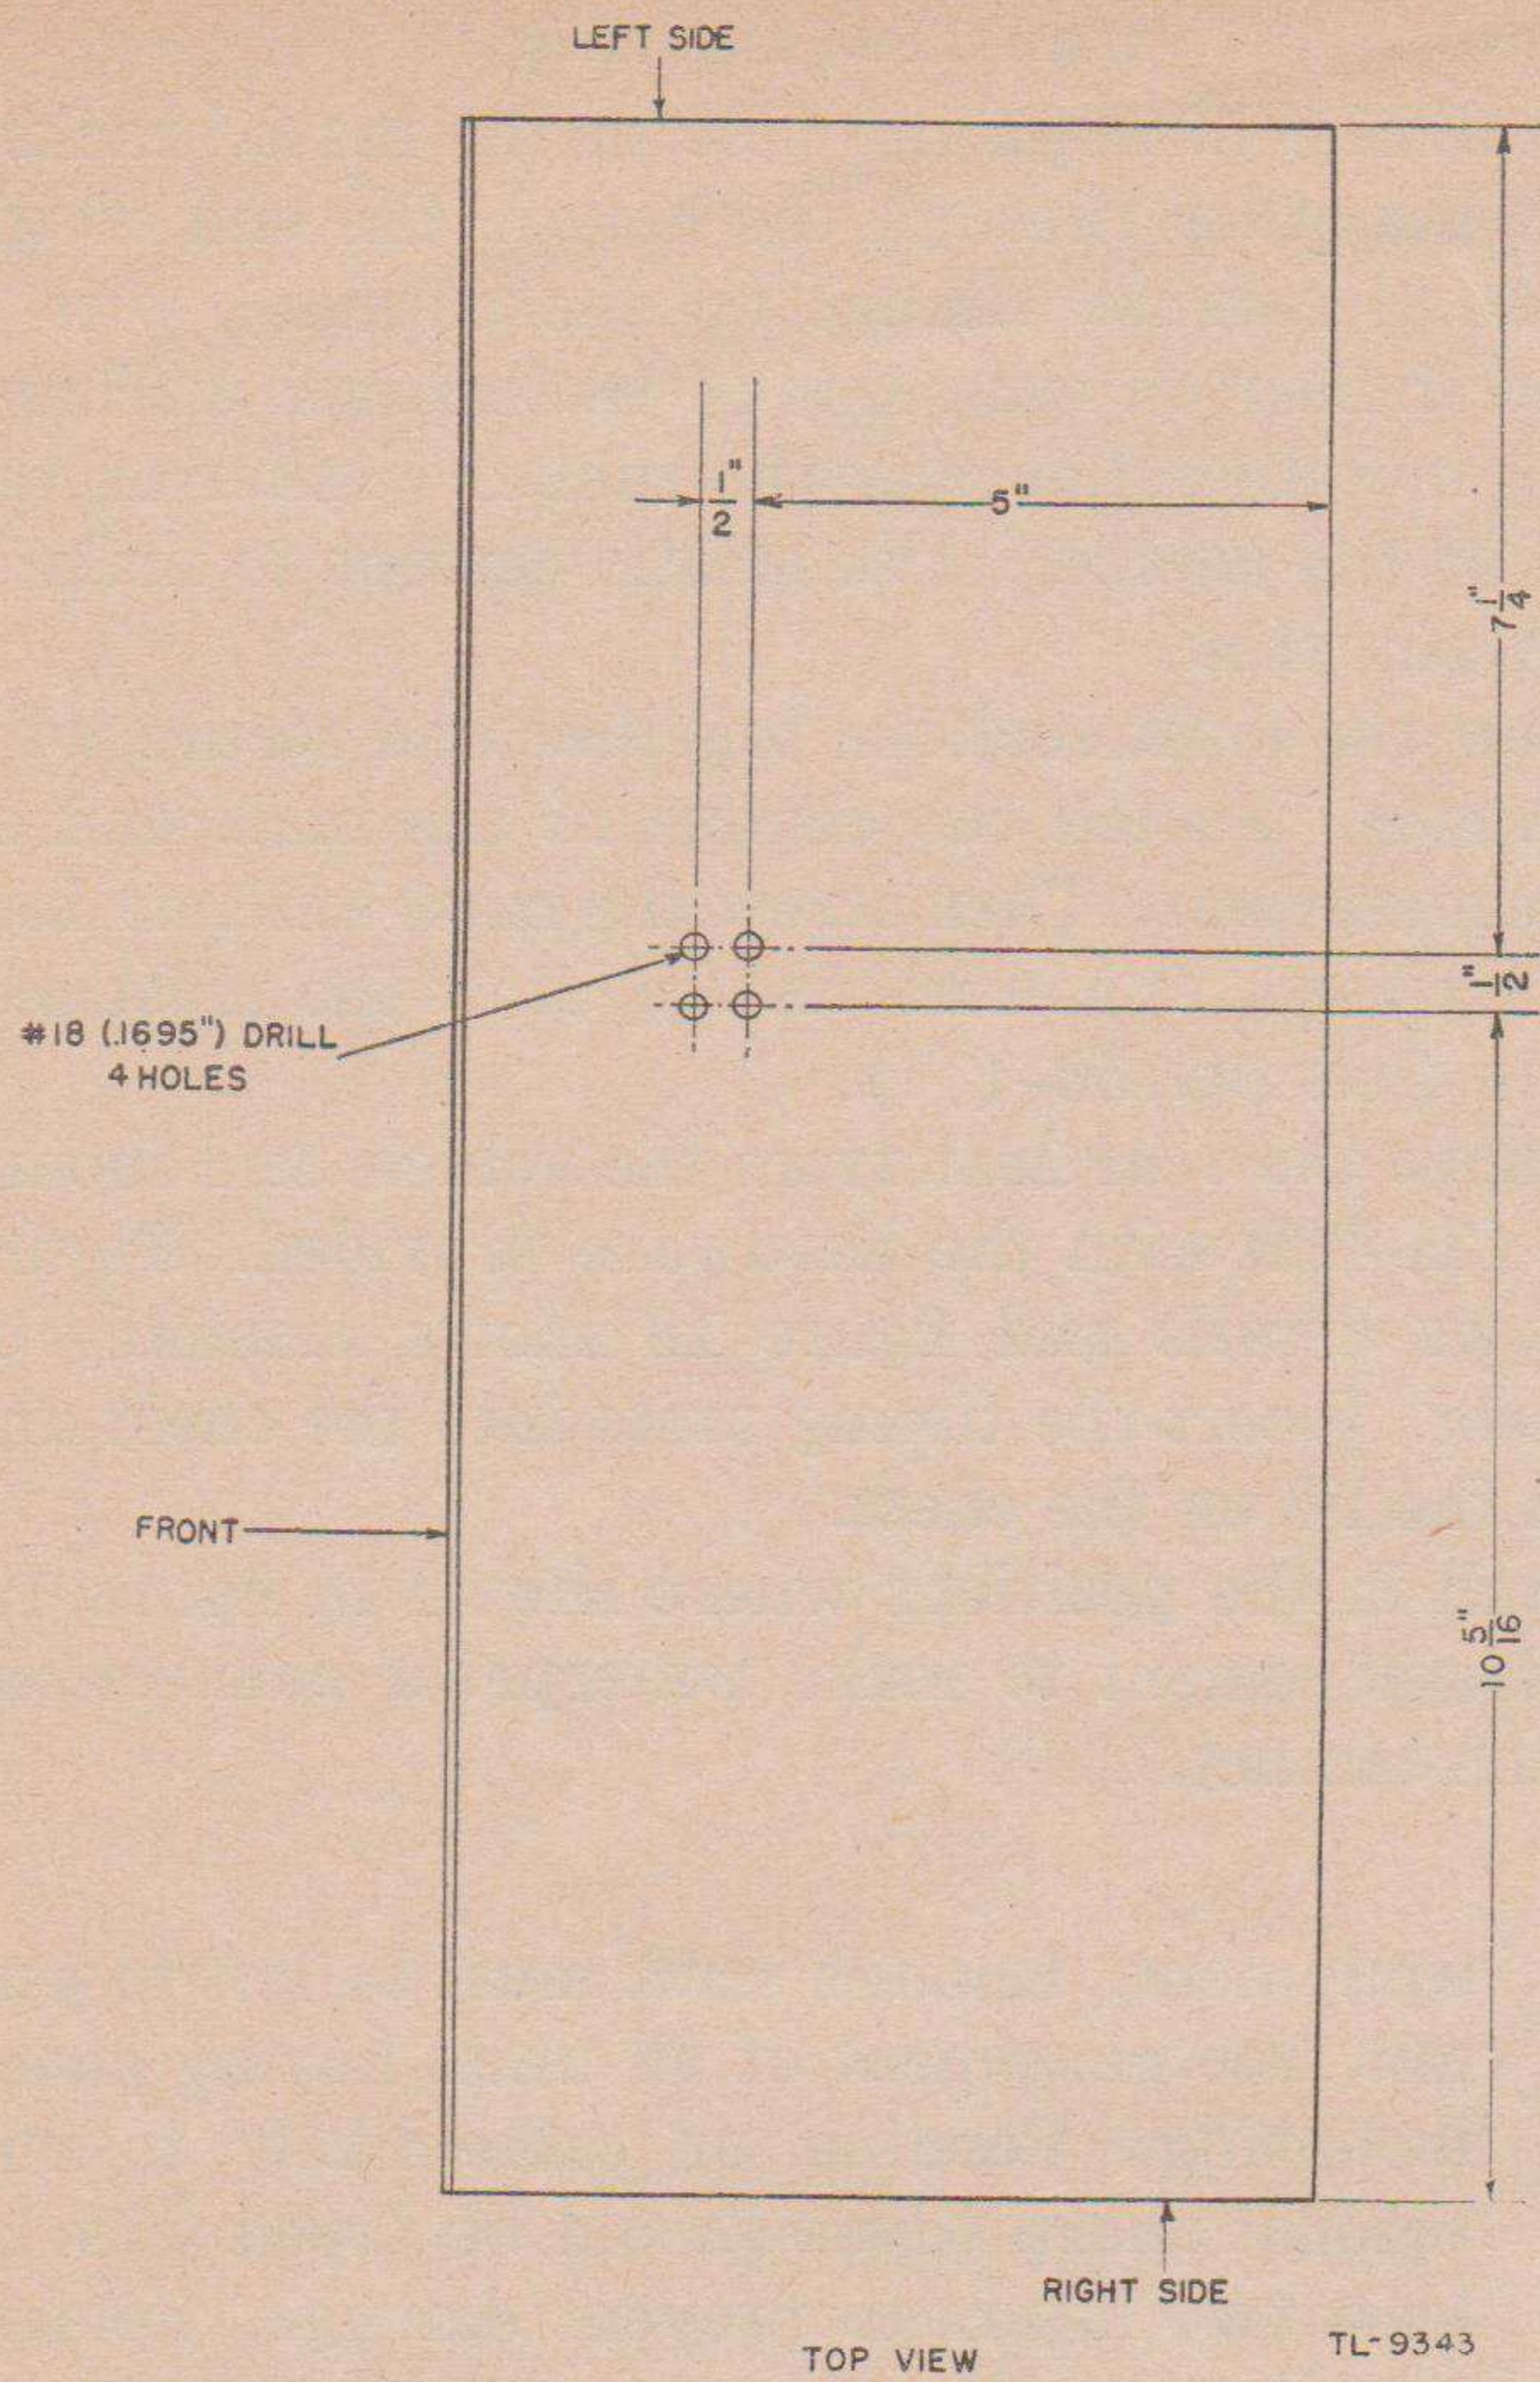
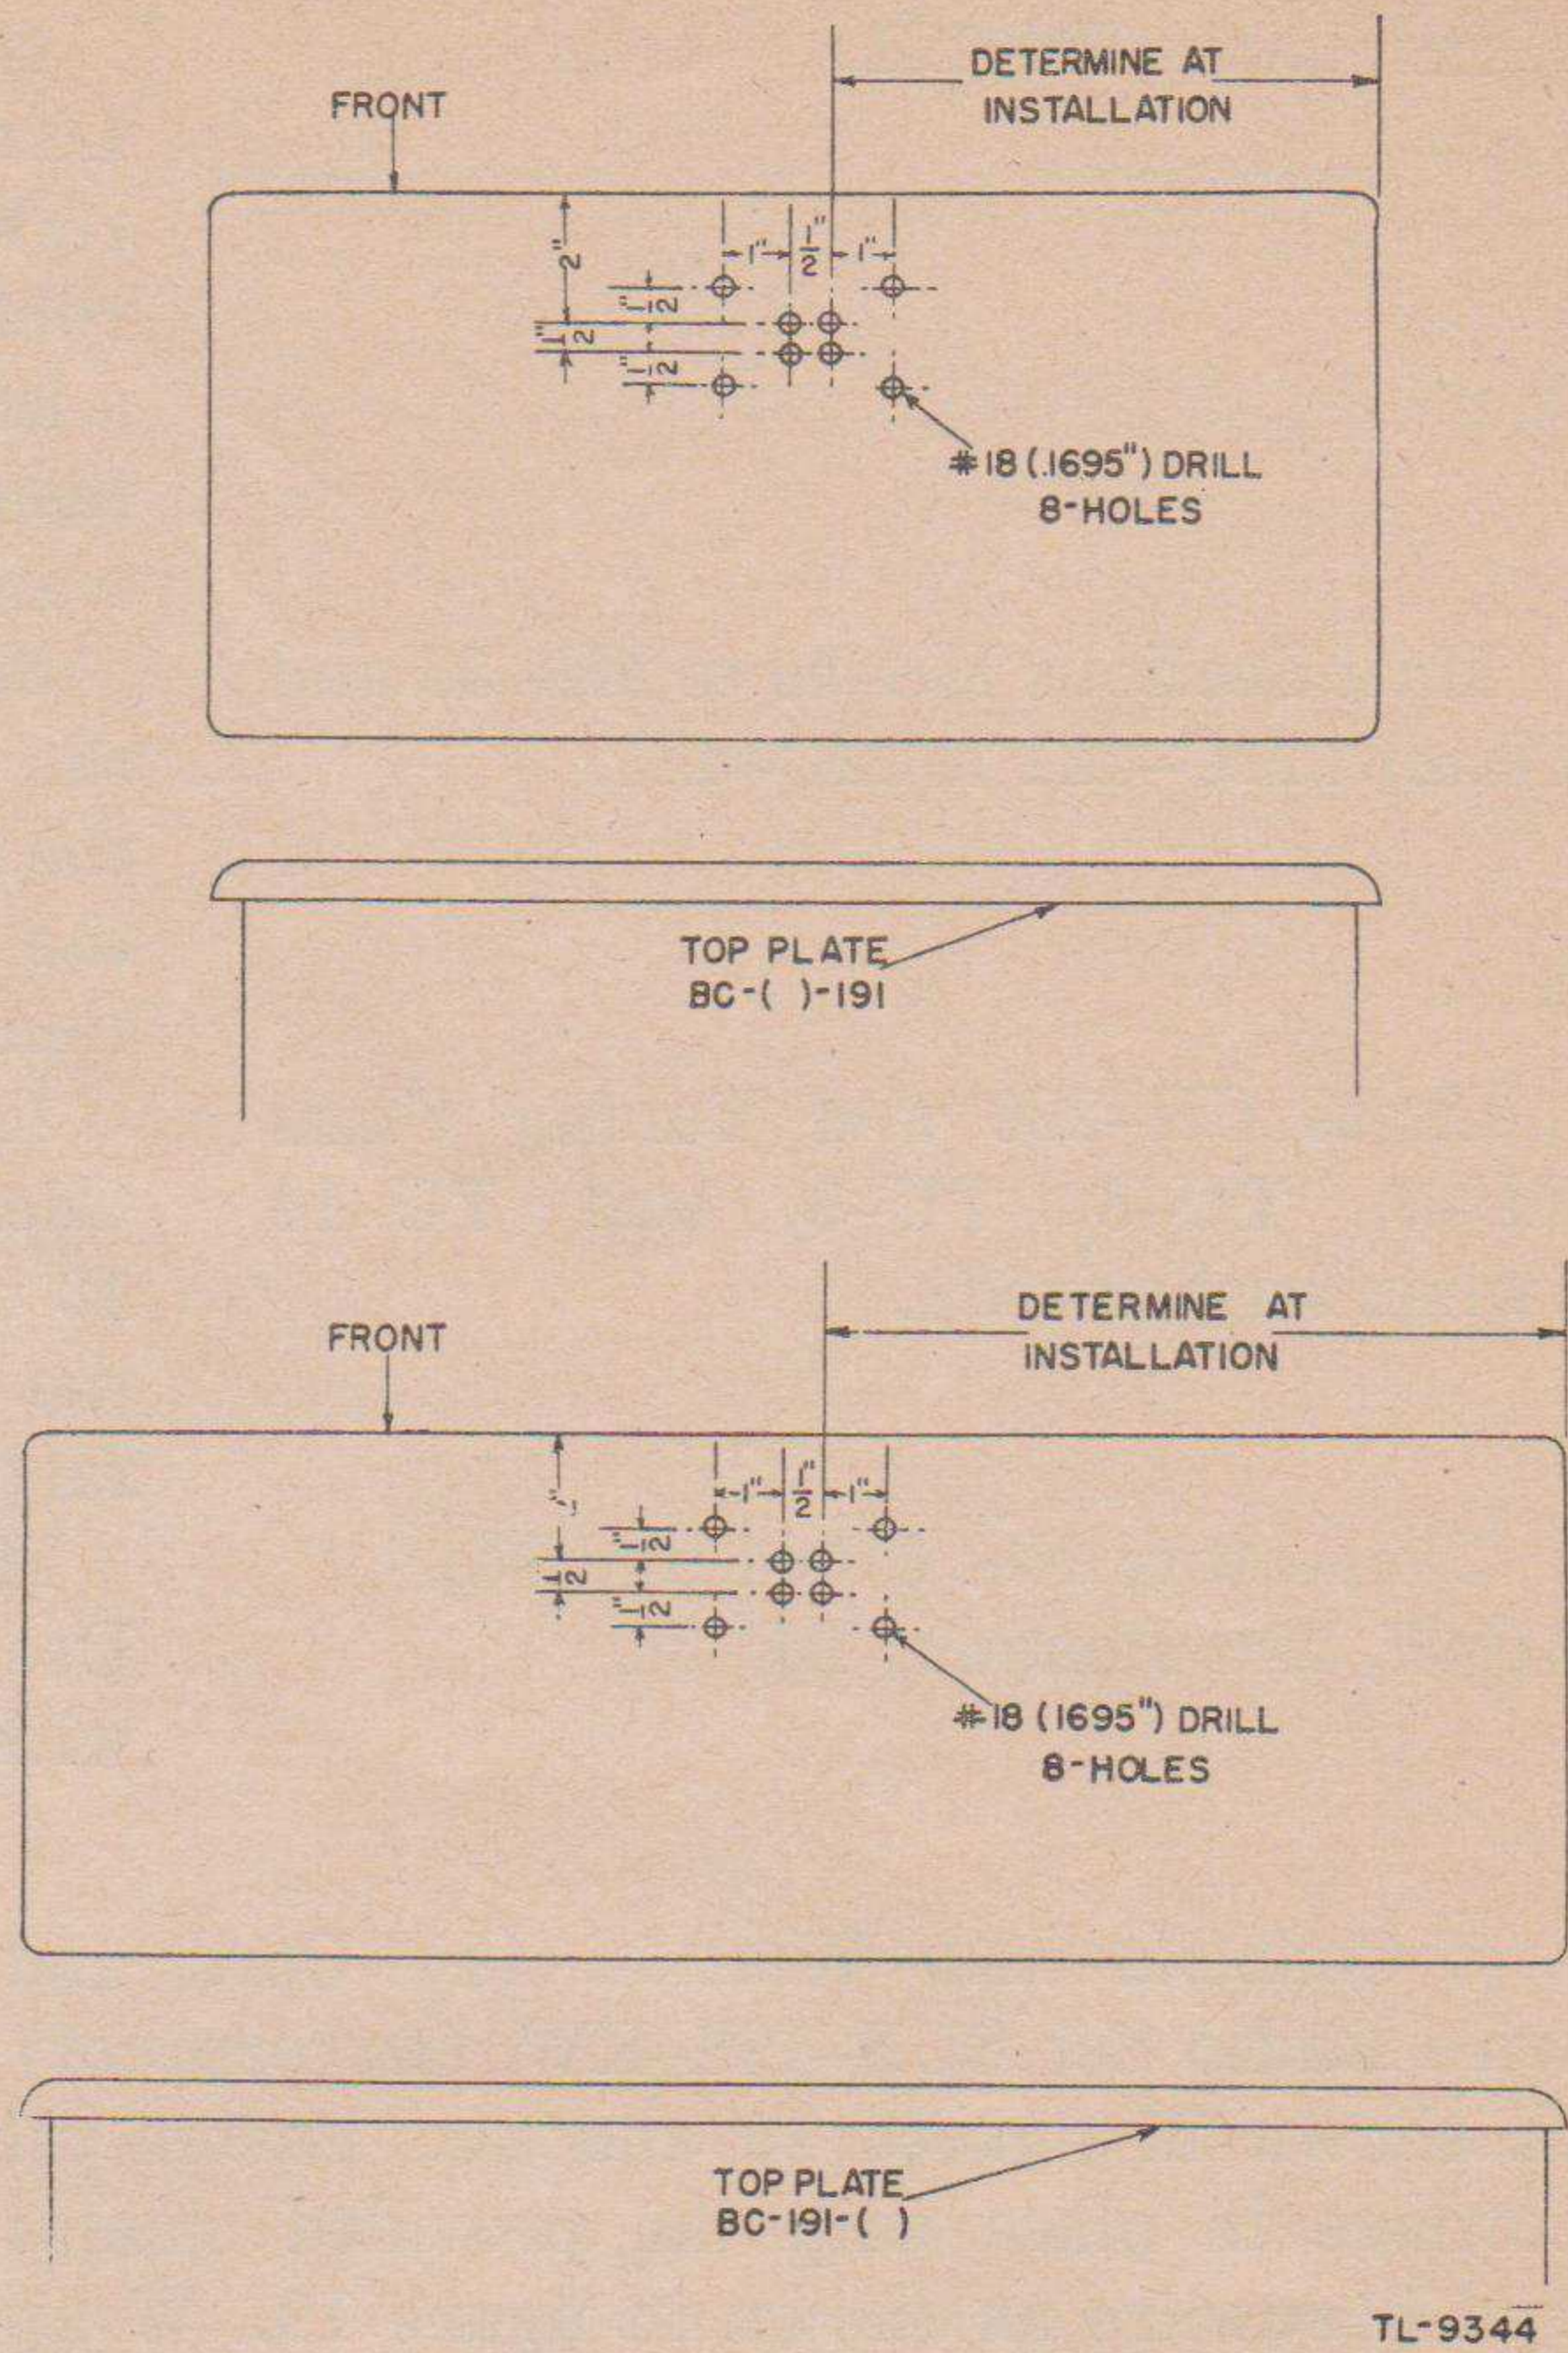
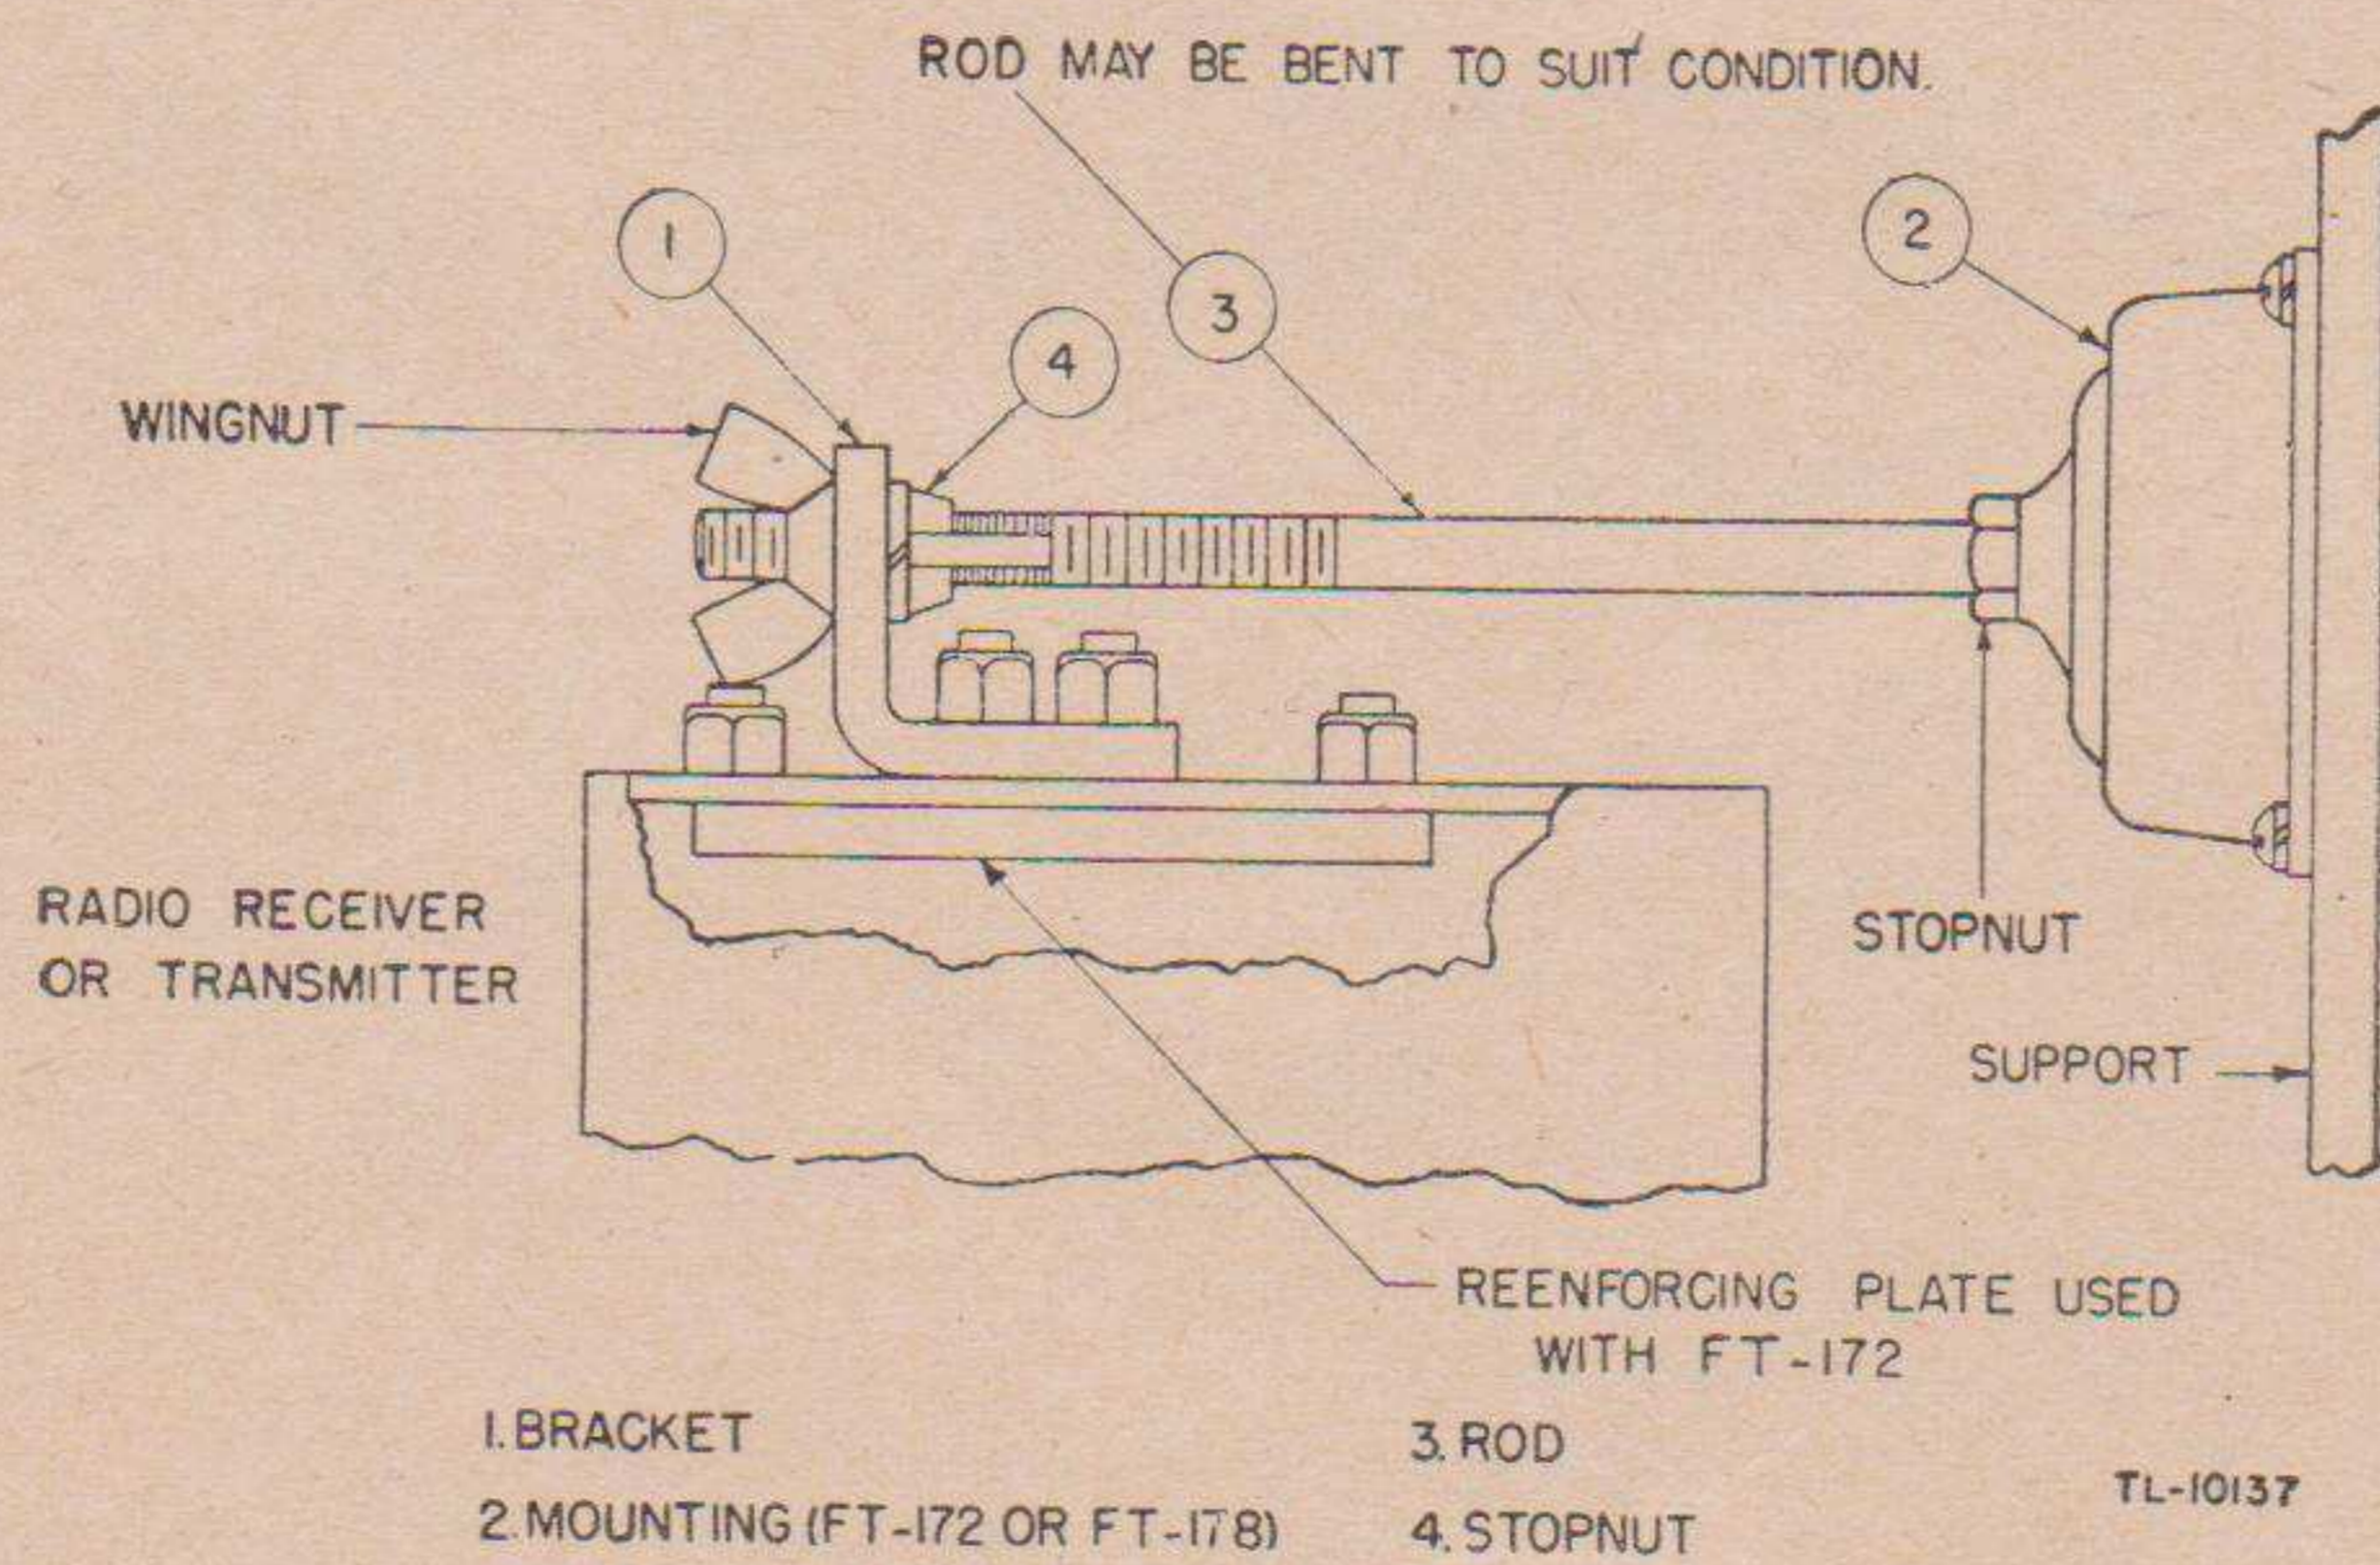

Figure 9. Drilling cabinet of Radio Receiver BC-312-() for Mounting FT-178.
Figure 11. Drilling cabinet of Radio Transmitter BC-191-() for Mounting FT-172.
Figure 10. Assembly of Mounting FT-172 or FT-178.
Remove the receiver from the cabinet. Drill the top of the cabinet as shown in figure 9 and attach the small angle bracket which is supplied with Mounting FT-178. Replace the receiver in the cabinet, place on Mounting FT-162-() and secure with the snap-slide fasteners provided. Cut a slot in Cover BG-75-() to admit item 1, figure 10, and complete the assembly of the mounting as shown in figure 10.
Radio Transmitter BC-191-() and Cover BG-78-().	Drill the top of the transmitter cabinet as shown in figure 11. Place the transmitter on Mounting FT-151-() and secure with the snap-slide fasteners provided. Cut a slot in Cover BG-78-() to admit item 1, figure 10, and place the cover over the transmitter. Complete the assembly of Mounting FT-178 as shown in figure 10.